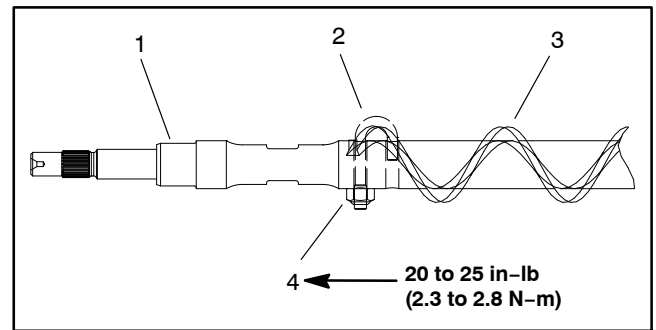

Figure 55
A. Remove the non-driven brush bearing assembly (item 30) from cutting unit.
B. Slide excluder seal (item 6) from roller brush shaft.
C. Remove lock nut and J-bolt from both ends of the brush (Fig. 55).
1. If brush was removed from shaft, slide brush onto shaft while rotating brush. Secure brush to shaft with two (2) J-bolts and lock nuts. Make sure that the J-bolts are installed with the threaded portion on the outside of the brush (Fig. 55). Torque lock nuts from **20 to 25 in-lb (2.3 to 2.8 N-m)**.
2. If roller brush was removed from roller shaft, slide brush onto shaft while rotating brush. Secure brush to shaft with two (2) J-bolts and lock nuts. Make sure that the J-bolts are installed with the threaded portion on the outside of the brush (Fig. 55). Torque lock nuts from **20 to 25 in-lb (2.3 to 2.8 N-m)**.